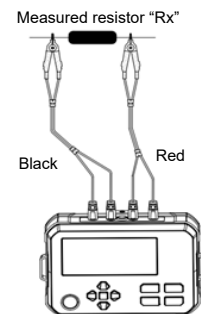

Figure 6-1
4. The components and parts heat up significantly during operation for low resistance measurement (measured resistance: <100mΩ). It is recommended that the test time shall not exceed 2 minutes and the test interval shall be 10 seconds. Power on the Meter, connect the test leads with the measured resistor, then measure the resistance of the resistor. As shown in Figure 6-1.